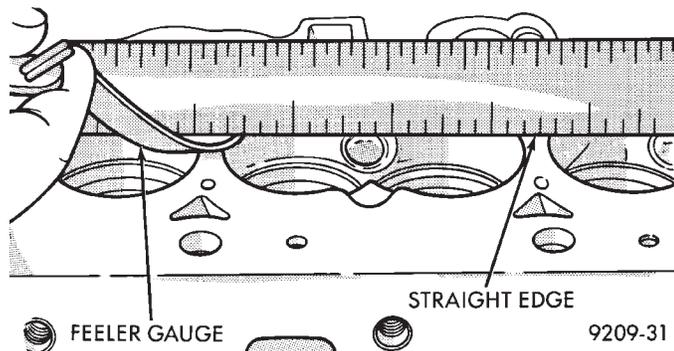

Fig. 2 Checking Cylinder Head Flatness
(1) The Timing belt and Solid Mount Compressor Mount Bracket must be removed before the cylinder head can be removed. Refer to procedure outlined in this group for service procedures.
(2) Remove cylinder head bolts.
(3) Cylinder head must be flat within 0.1mm (.004 inch (Fig. 2).